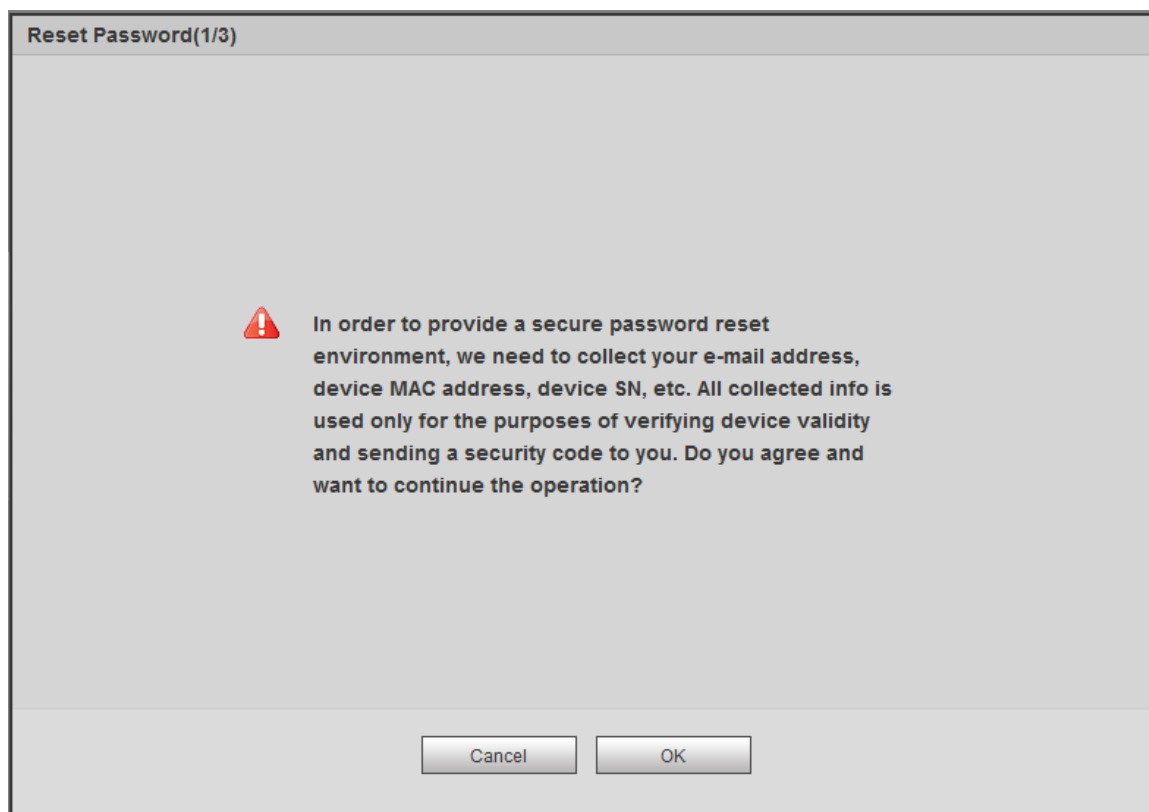

Figure 4-13
- If you have set the reserved email, system displays a notice before the password reset. See Figure 4-13.